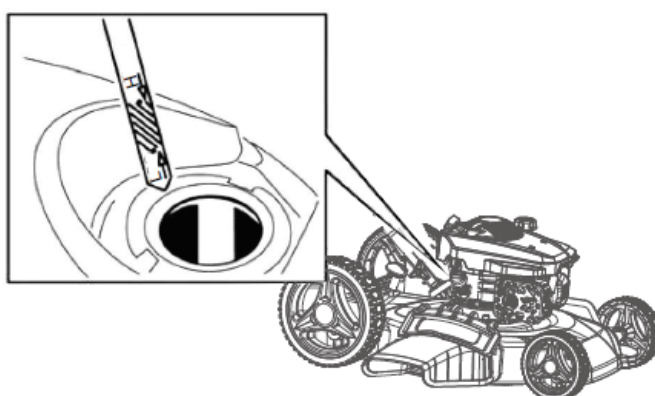

Figure 5
Important: To reduce starting problems, add fuel stabilizer to the fuel, mixing it with gasoline less than 30 days old. (Figure 5)
2. Remove the dipstick and check the oil level (Figure 5) If the oil level is low on the dipstick, slowly pour oil into the oil fill hole to raise the oil level to the full range on the dipstick. Do not overfill. Max 0.45L, type: SAE 10W-30 oil with an API service rating of SF or higher.